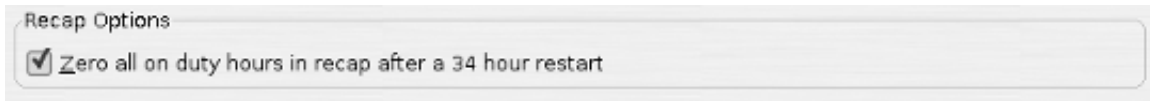

Figure 4.5. Zero Recap Settings
3. Select the "Zero all on duty hours in recap after a 34 hours restart" checkbox see Figure 4.5, "Zero Recap Settings".